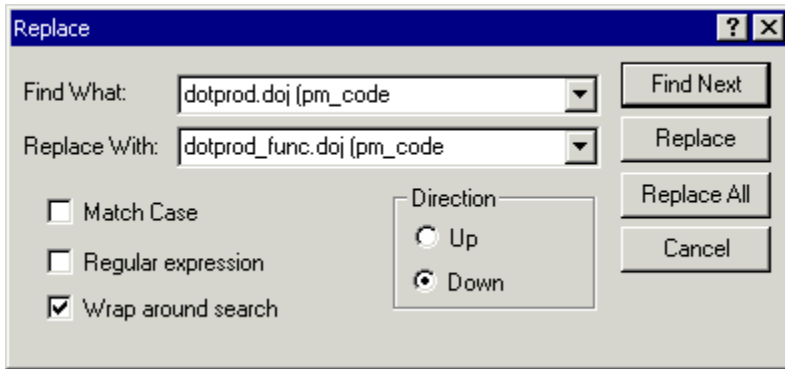

Figure 3-18. Replace Dialog Window
3. From the Edit menu, choose Replace to open the **Replace** dialog box, shown in Figure 3-18.